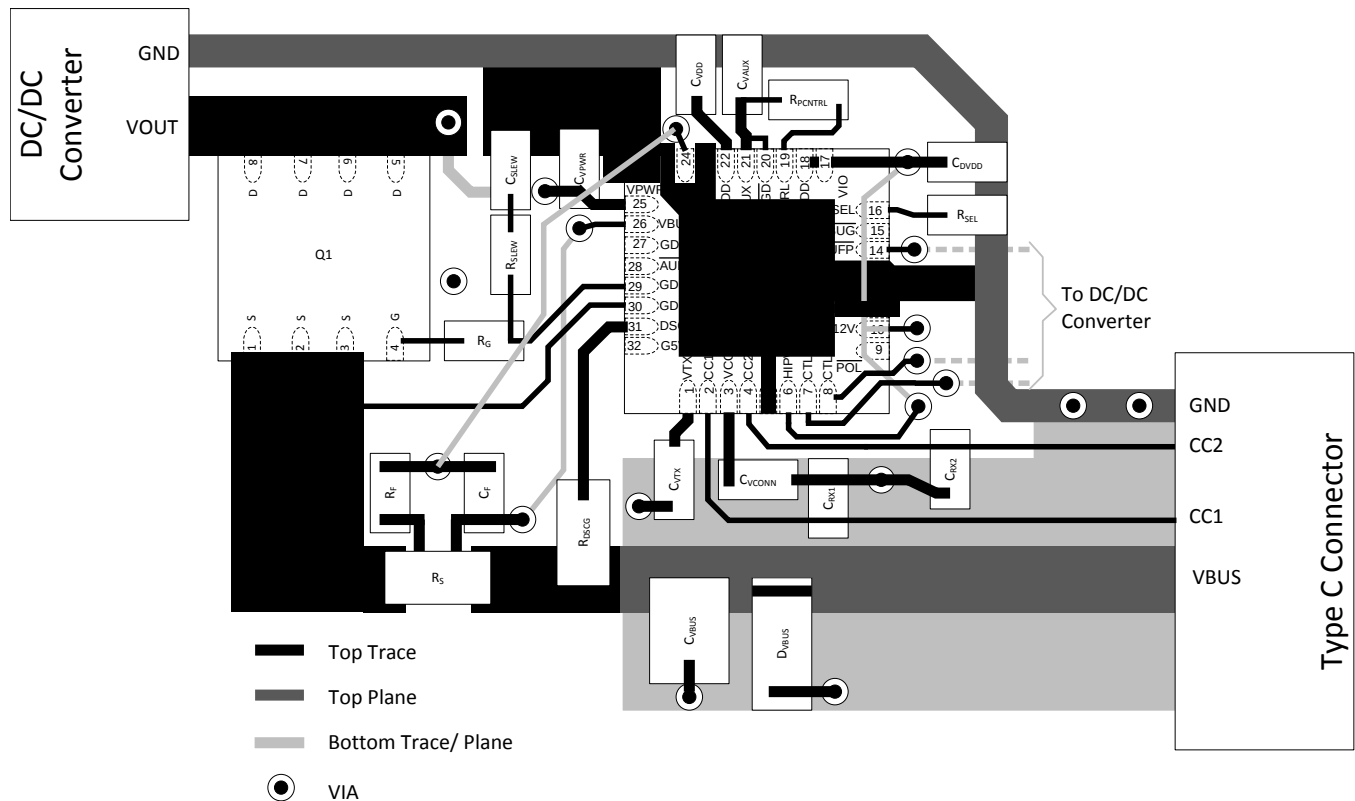

Figure 74. Layout Example
- C_{VPWR} : Place close to pin 25 (VPWR) and connect with low inductance traces and vias according to Figure 74.
- C_{VDD} : Place close to pin 22 (VDD) and connect with low inductance traces and vias according to Figure 74.
- C_{VCONN} : Place close to pin 3 (VDD) and connect with low inductance traces and vias according to Figure 74.
- C_{DVDD} : Place close to pin 18 (DVDD) and connect with low inductance traces and vias according to Figure 74.
- C_{VIO} : Place close to pin 17 (VDD) and connect with low inductance traces and vias according to Figure 74.
- C_{VAUX} : Place close to pin 21 (VAUX) and connect with low inductance traces and vias according to Figure 74.
- C_{VTX} : Place close to pin 1 (VTX) and connect with low inductance traces and vias according to Figure 74.
- **R_S**: Place R_S as shown in Figure 74 to facilitate uninterrupted power flow to the Type C connector. Orient R_S for optimal Kelvin sense connection/routing back to the TPS25741 or TPS25741A. In high current applications
- R_G : Place R_G near Q_1 as shown in Figure 74. Minimize stray leakage paths as the GDNG sourcing current could be affected.
- R_{SLEW}/C_{SLEW} : Place R_{SLEW} and C_{SLEW} near R_G as shown in Figure 74.
- R_F/C_F : When required, place R_F and C_F as shown in Figure 74 to facilitate the Kelvin sense connection back to the device.
The basic component placement and layout is provided in Figure 74. This layout represents the circuit shown in Figure 41. The layout for other power configurations will vary slightly from that shown below.